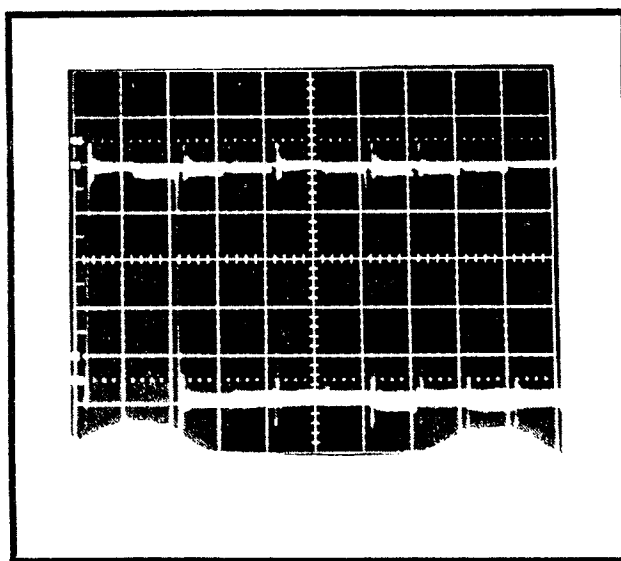

Fig. 9-24. Data bus line signal at pin 6 of the 3850 CPU. Scope controls are at 1  $\mu$ s/div for the horizontal and 1V/div for the vertical.
7. Check the data bus lines at pins 6, 9, 12, 15, 26, 29, 32, and 35 of the CPU. Make sure the signals on these lines read PSU #1 and PSU #2. There should be fast-switching pulses on these pins. A typical data bus line is shown in Fig. 9-24. Also make sure these are not shorted together. This could be done by holding the scope probe on one and momentarily grounding the others.